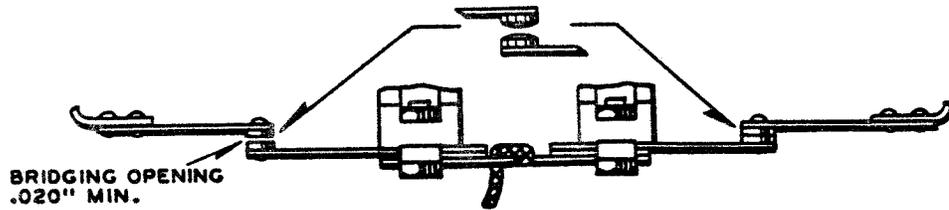

FIG. 1—RELAY OPERATING CONTACT FOR FN-16 AND FN-16A RELAYS
- A. Before the contacts are adjusted, all screws holding contact supports and contact members should be checked for tightness. A check of the lamp control contact springs with wedge and flat tips and the relay control springs with spherical faced tips should also be to see that they occupy their correct relative position as shown in figures 1, 2 and 3. Spacer used